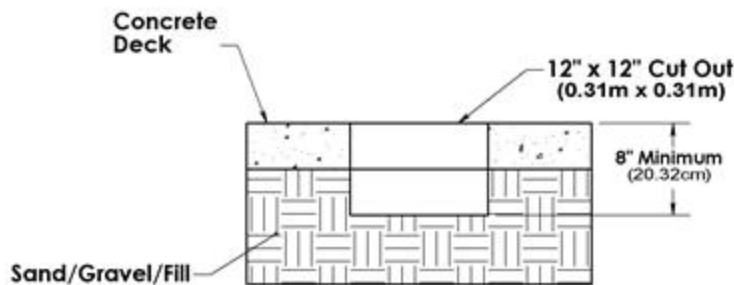

Figure 2
- b. Use a concrete cutting saw; cut the 12” x 12” square out of the existing concrete deck. Using a heavy/sledge hammer to break the cut section of concrete and remove from the deck. See Figure 2.